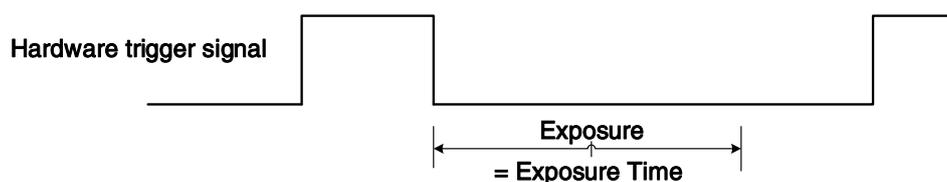

Figure 8-28 The sequence diagram in falling edge trigger of Timed exposure mode
- If falling edge triggering is enabled, exposure starts when the trigger signal falls and continue until the exposure time has expired, as shown in Figure 8-28